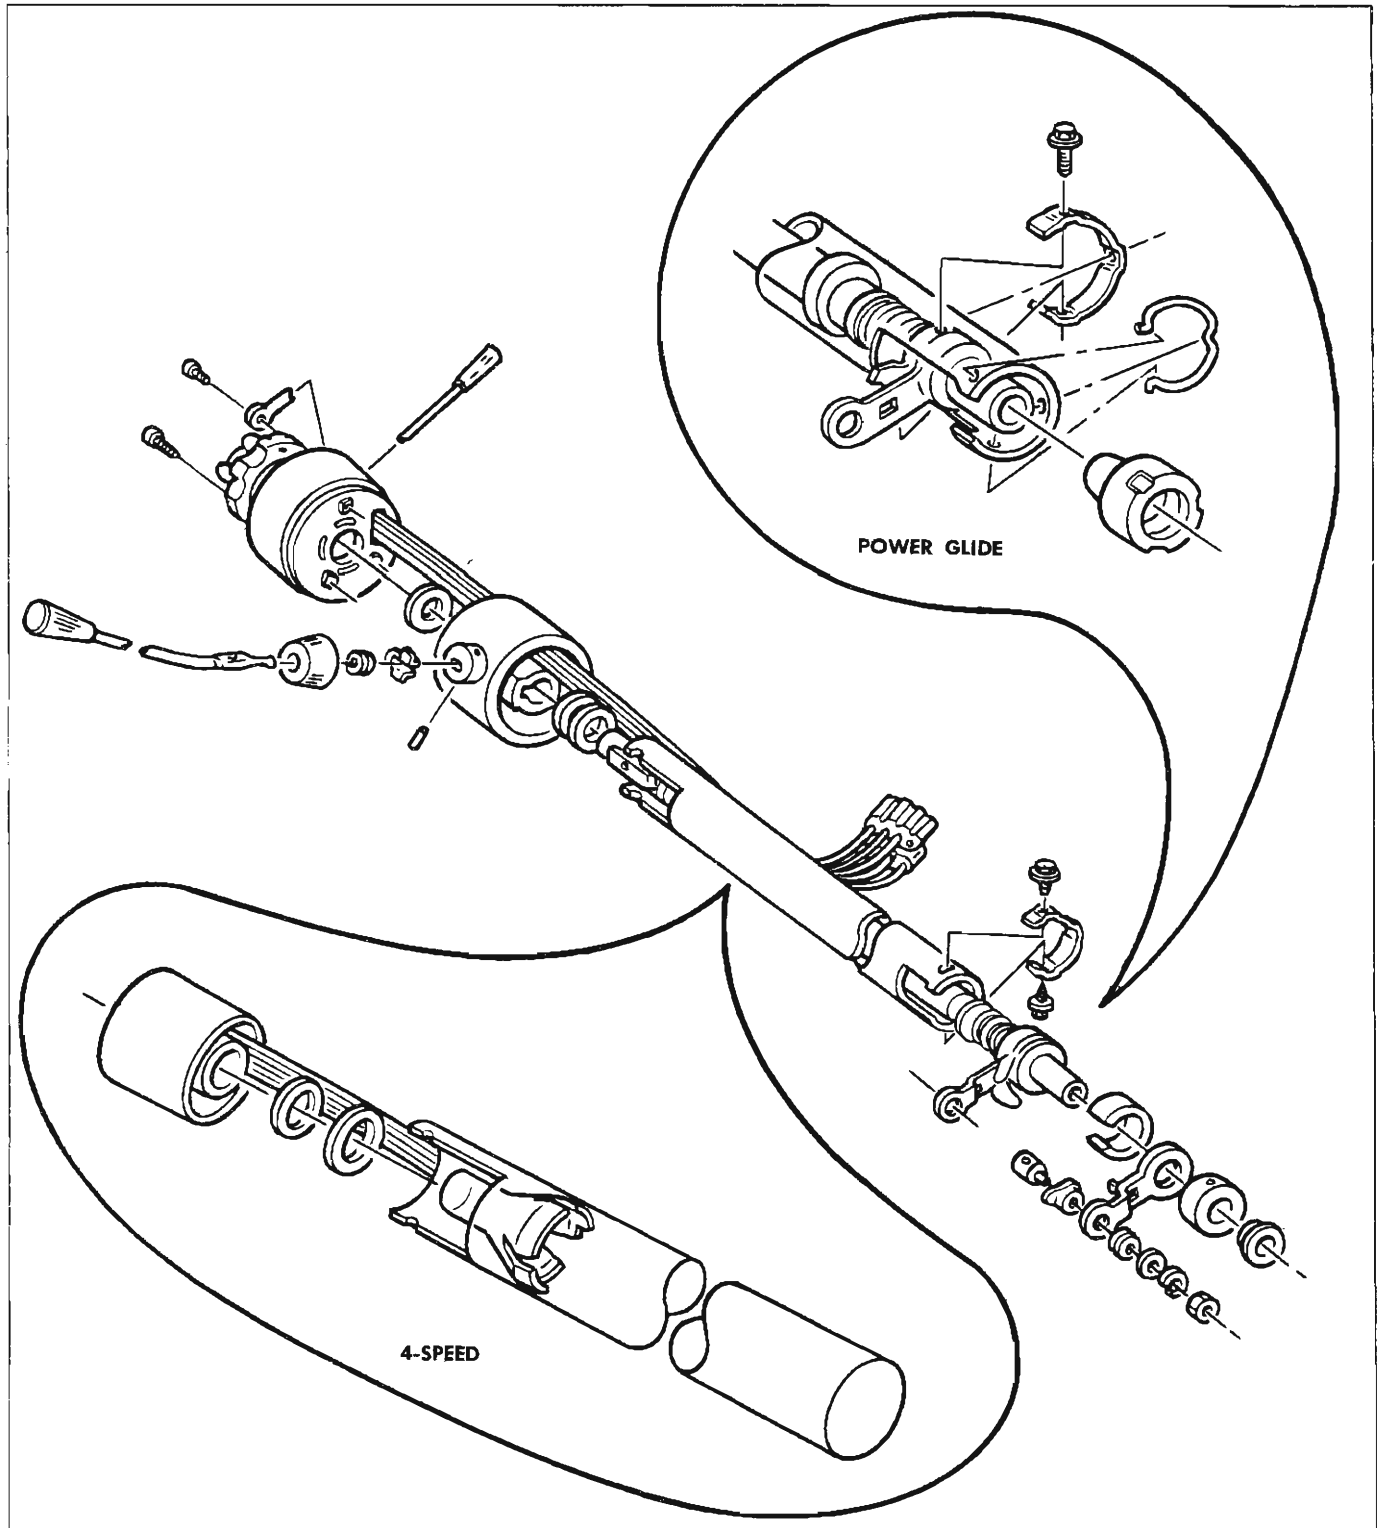

Fig. 12—Mast Jacket—Chevrolet
**MAST JACKET****Chevrolet (Fig. 12)****Removal**
2. Remove two attaching bolts at steering coupling (fig. 12).